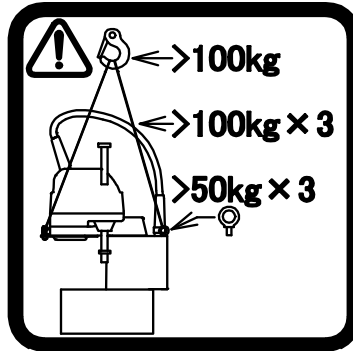

Fig. 5 (a) Transportation label
(3) Grease caution label**Fig. 5 (c) Caution label****Description**